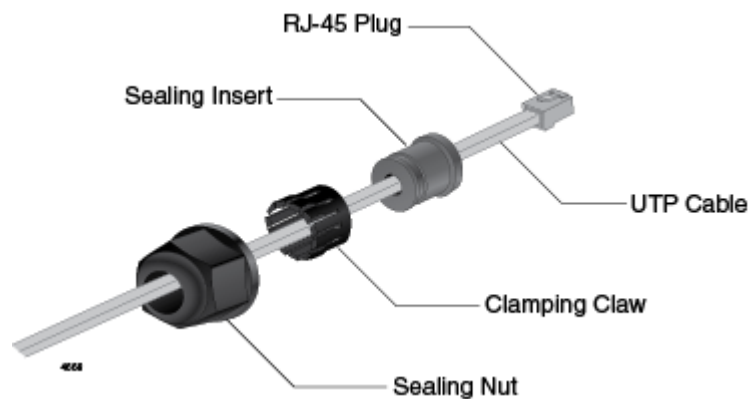

Figure 6. Applying the Sealing Parts to the LAN Cable
4. Pass the LAN cable through the sealing nut, and attach the sealing insert and clamping claw to the cable. See Figure 6.